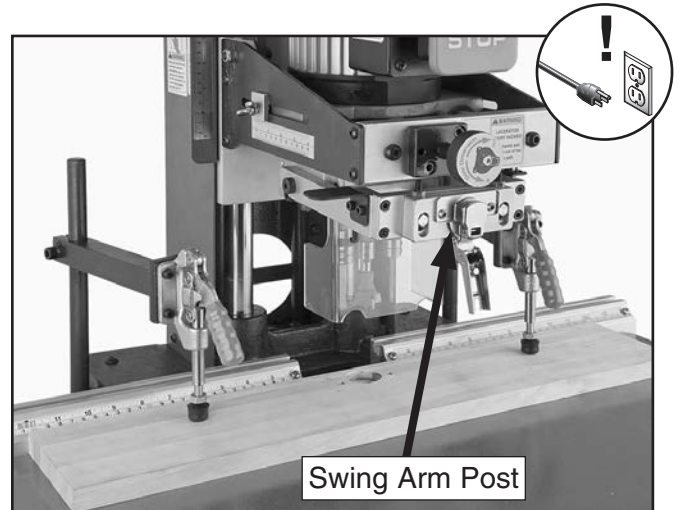

Figure 41. Hinge mounted to swing arm post.
2. Place the hinge onto the swing arm post, as shown in **Figure 41**.